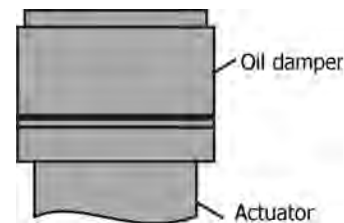

FIGURE 2.9 Oil damper to cushion valve closure.
- As rapid changes in operating conditions of valves and pumps are the major reasons for pressure waves, it is important to reduce the speed of these changes. For example, valve plug movement can be damped by means of special dampers, such as the one shown in Figure 2.9.